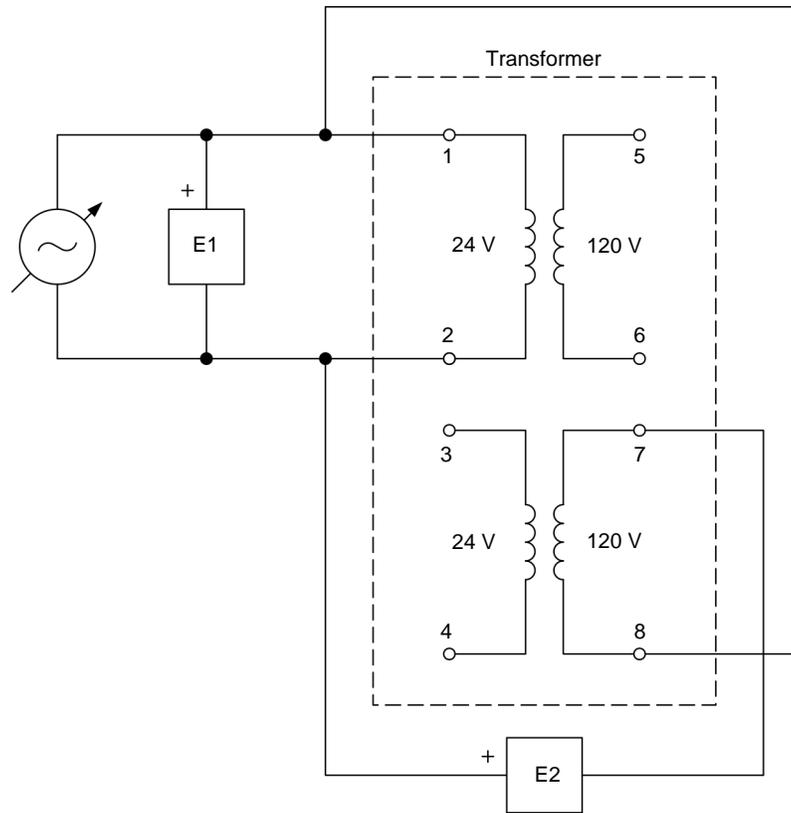

Figure 18. Circuit for determining transformer winding polarity using a voltmeter.
23. Connect the equipment as shown in Figure 18. In this circuit, the other secondary winding (winding 7-8) of the transformer is connected in series with the primary winding (winding 1-2).